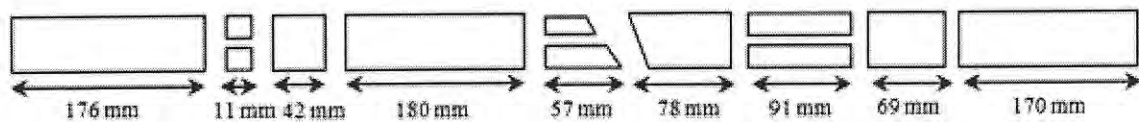

Figure Q3(a): Rock core of boring exploration
- Q3** (a) A core sample of granite was drilled at 1.5 m length at Muar. Based on the rock core sample as shown in **Figure Q3(a)**, determine the Total Core Recovery (TCR), Solid Core Recovery (SCR) and Rock Quality Designation (RQD). (6 marks)